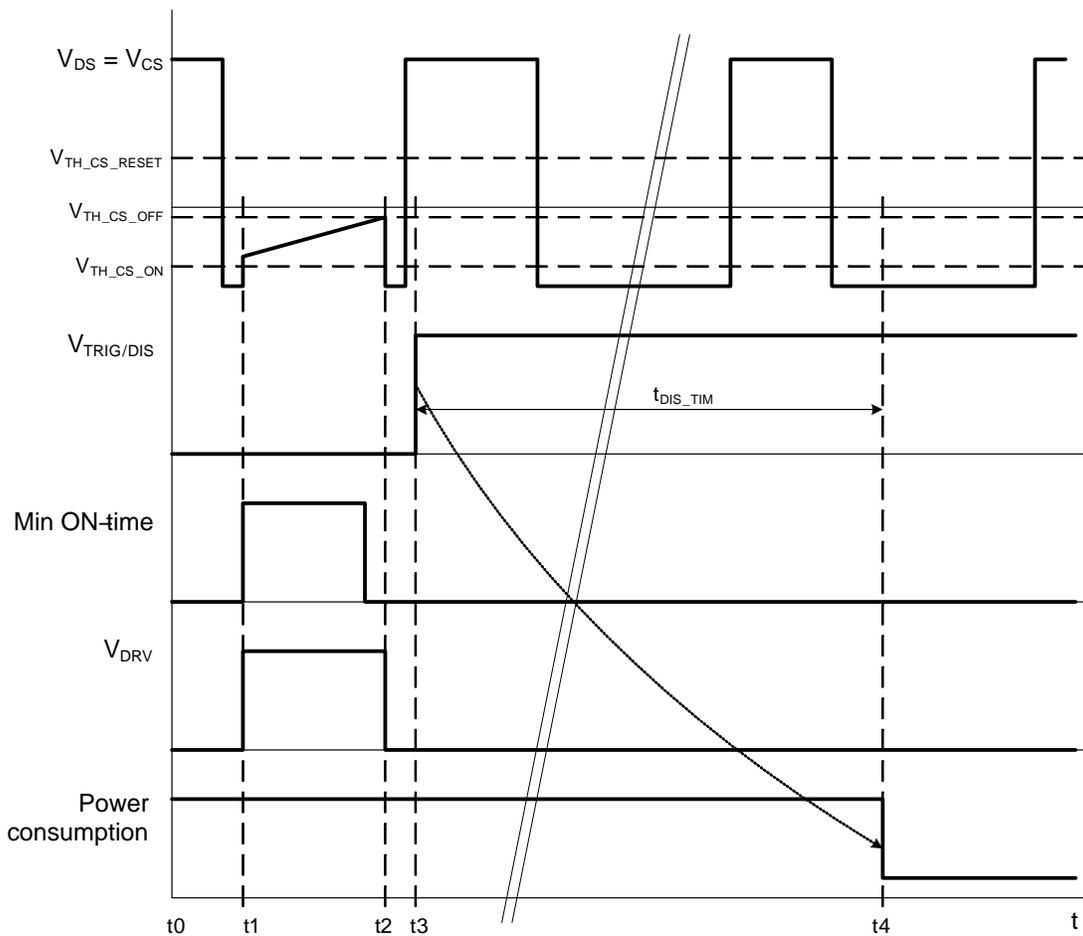

**Figure 57. Trigger Input Functionality Waveforms – Two Pulses at One Cycle**
Figure 57 shows IC behavior in case the trigger signal features two pulses during one cycle of the VDS (CS) signal. The trigger goes low enables the DRV just before time  $t_1$  and DRV turns-on because the VDS voltage drops under  $V_{TH\_CS\_ON}$  threshold voltage. The trigger signal disables driver at time  $t_2$ . The trigger drops down to LOW level in time  $t_3$ , but IC waits for complete minimum off-time. Minimum off-time execution is blocked until CS pin